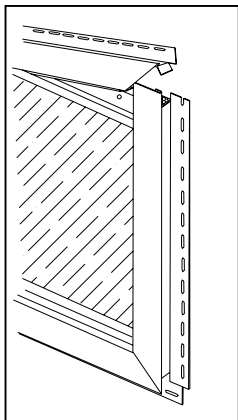

Figure 5
3. Install the top lineal working the angles over the side lineals. Nail loosely every 8" to 10". (Figure 5)